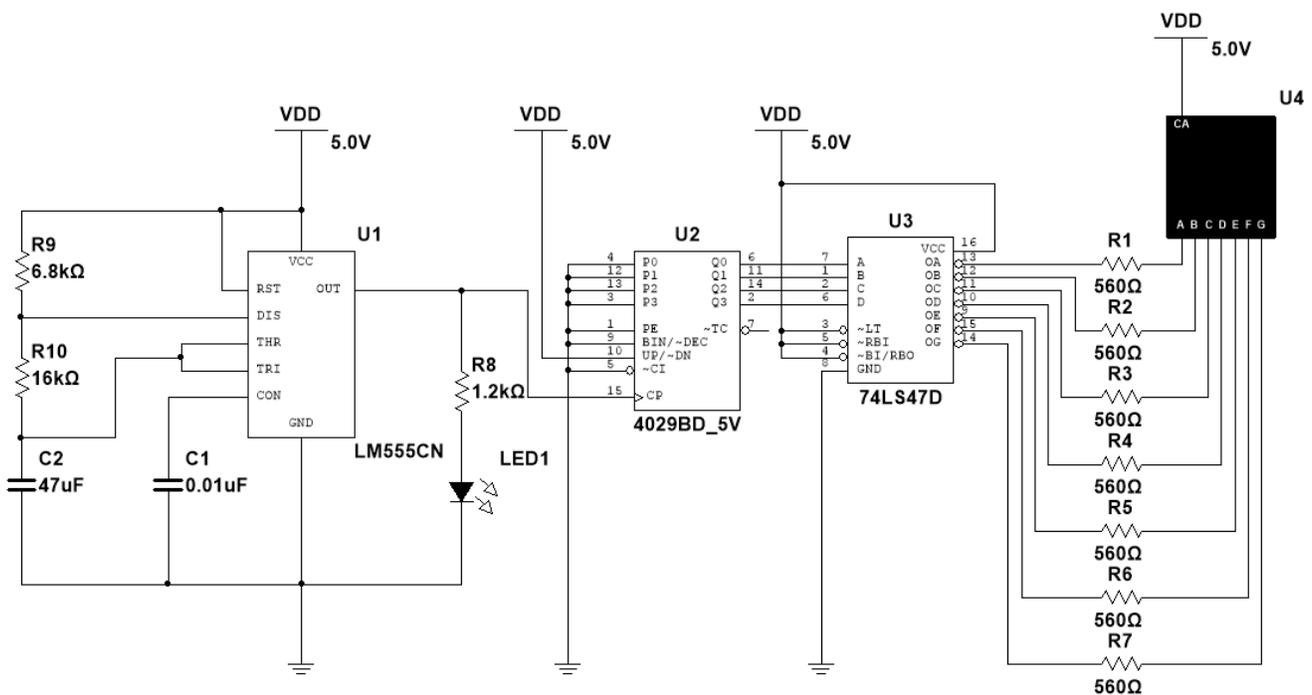

Figure 4
i Connect the components as shown in Figure 4.
2. Then change the “Preferred net name” field as illustrated in Figure 4 (i.e Vout555, etc...)